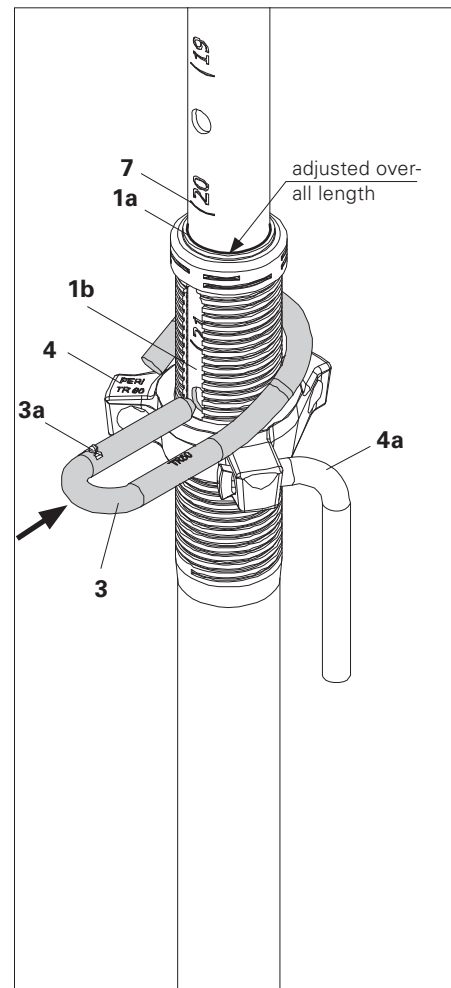

Fig. A1.01a
3. Insert G-hook (3) in the visible hole and push in as far as possible (3a). -> inner tube is now fixed. (Fig. A1.01a)
4. Turn adjusting nut (4) on the grip (4a) to the required size. (Fig. A1.01a)